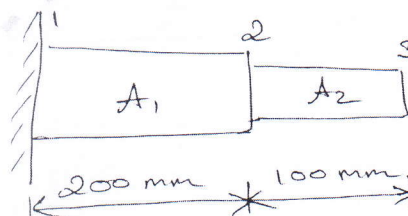

Fig.Q10(b)
b. Evaluate eigen value and eigen vector for the stepped bar shown in Fig.Q10(b). Take $E = 200 \text{ GPa}$ and specific weight 7850 kg/m^3 . Take $A_1 = 400 \text{ mm}^2$ and $A_2 = 200 \text{ mm}^2$.